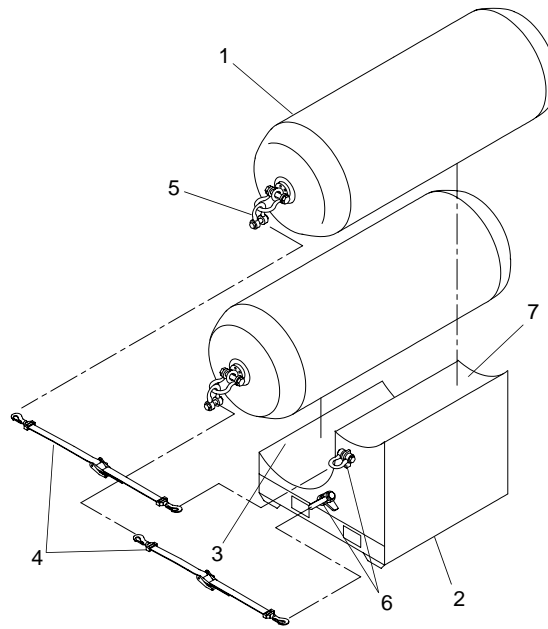

Figure 11. 4 ft by 12 ft Fender and Pallet
9. Using crane, slings and shackles place 4 ft by 12 ft fender (figure 11, item 1) in pallet (figure 11, item 2), centered in the lower pallet position (figure 11, item 3).
10. Attach tie down straps (figure 11, item 4) to the fender shackles (figure 11, item 5) and pallet shackles (figure 11, item 6). Tighten straps (figure 11, item 4).
11. Using crane, slings and shackles place 4 ft by 12 ft fender (figure 11, item 1) in pallet (figure 11, item 2), centered in the upper pallet position (figure 11, item 7).
12. Attach tie down straps (figure 11, item 4) to the fender shackles (figure 11, item 5) and pallet shackles (figure 11, item 6). Tighten straps (figure 11, item 4).